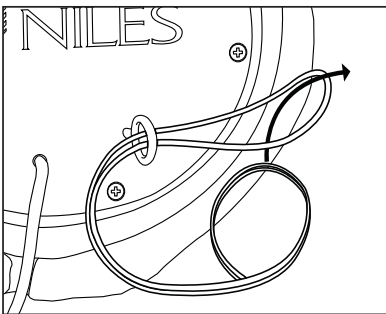

Figure 8.
3. Feed the opposite end of the nylon security cable through the exposed portion of the cable that was just fed through the security eyelet, as shown in **Figures 8 and 9**.